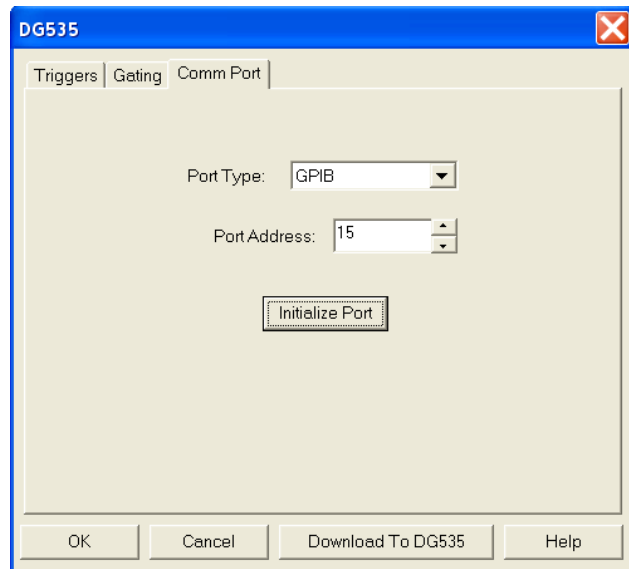

Figure 168. DG535/Comm Port tab
5. Click on the **Comm Port** tab (Figure 168).